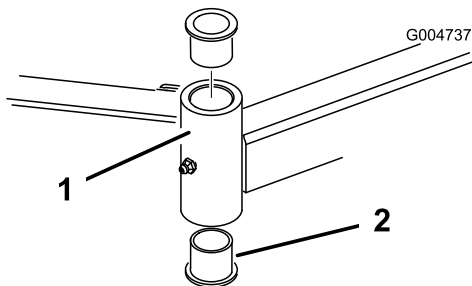

Figure 122
4. Insert a pin punch into the top or bottom of the mounting tube and drive the bushing out of the tube (Figure 122).